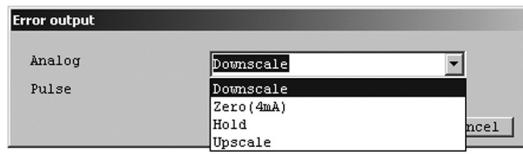
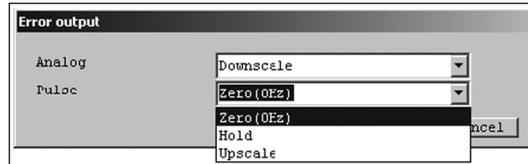

Fig.43
Fig.44
- ③ Select the output levels to set from the drop-down lists by clicking the triangles on the right side of the "Analog" and "Pulse" items, as shown in Fig. 43 and Fig. 44.